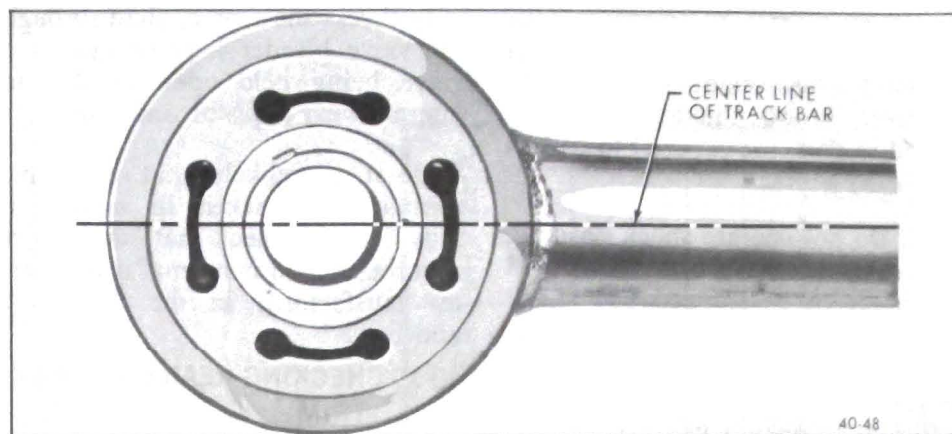

Figure 40-6 - Track Bar Bushing Installed in Bar
3. Install new bushing in track bar eye by pressing on flanged side of bushing. Press in bushing until flange is in contact with eye of track bar. When pressing in bushing, apply force only to the outer sleeve of the bushing. See Figure 40-6.